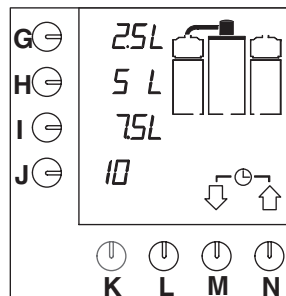

Fig. 5 Display with the default options
- The indicator lamp in the switch lights up. The default options appear in the display (fig. 5).